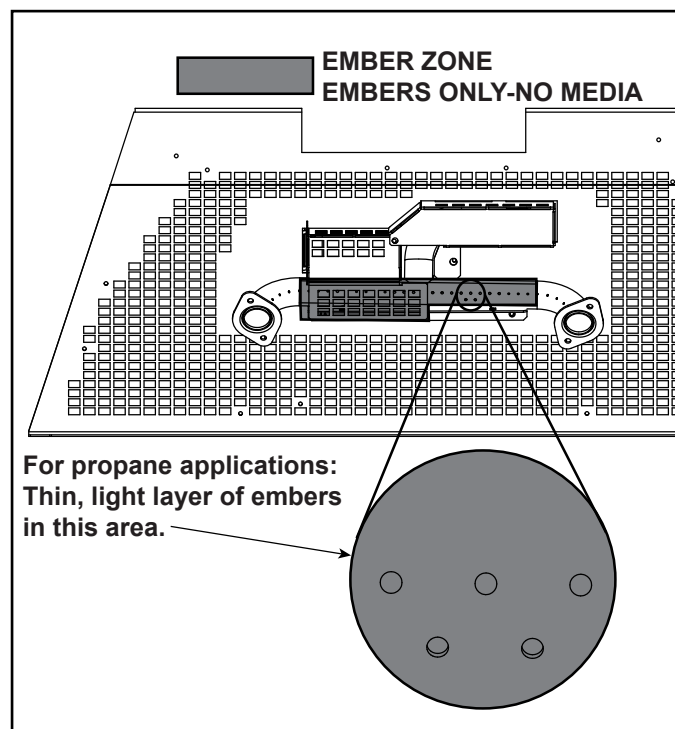

Figure 18 Ember Zone
- Place dime-size embers in the ember zone as shown in Figure 18. The embers must be placed loosely over the port holes and pilot shield. Do not press embers down or into the holes. Create a single layer, no more than 1/4 inch thick.
NOTICE: For Propane applications, embers must be applied in a thin, light layer in the portion of the zone indicated in Figure 18.